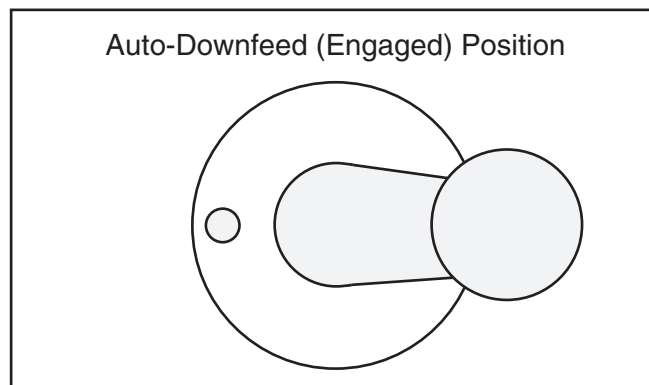

Figure 37. Downfeed selector in auto-downfeed (engaged) position.
2. Pull the downfeed selector knob out, then rotate it clockwise until the knob pin seats in the auto-downfeed (engaged) detent (see **Figure 37**).